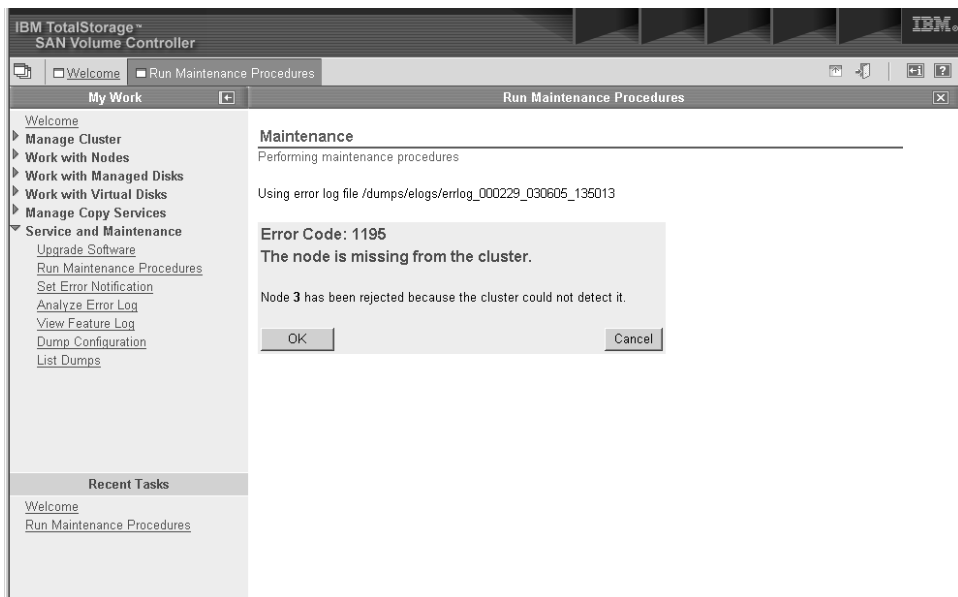

Figure 51. Example of what is displayed when you look for the error code
3. Click the hyperlink for the number for the error code at the top of the list to display what is shown in Figure 51.
Figure 51 shows the error code and provides a description of the error condition.